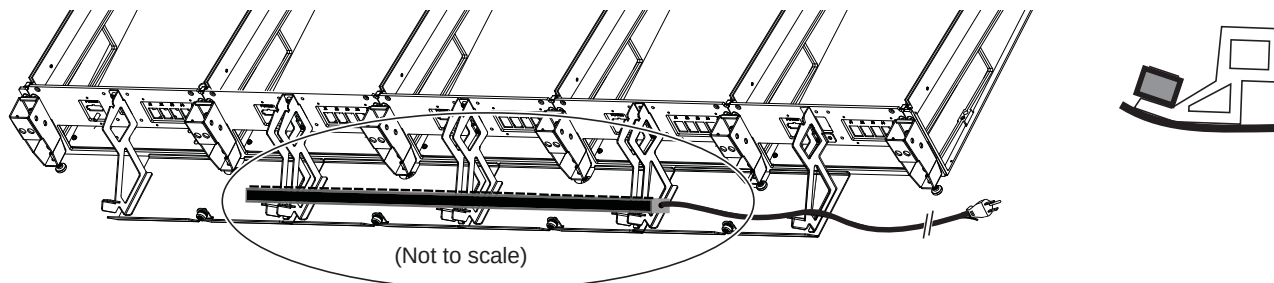

Figure 2. Power strip placement on Rear Panel brackets (back view at left, side view at right)
- 1 Standing behind the middle of the frame, place the power strip on the Rear Panel brackets so that it sits on the angled arms of the brackets as shown in Figure 2. The power strip's sockets should face up and towards the front of the frame.